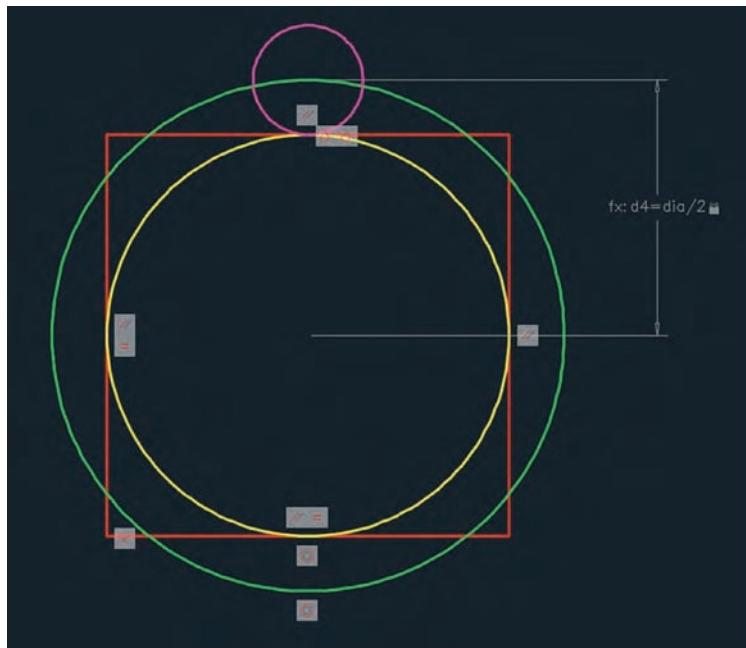

FIGURE 12.12 Adding the last dimensional constraint
10. Click the Linear constraint tool in the Dimensional panel. Click the magenta circle, the yellow circle, and then a point off to the right to place the dimension line. Type **d4=dia/2** and press Enter (see Figure 12.12). The center of the magenta circle is anchored effectively at the top quadrant (or top cardinal point) of the green circle.